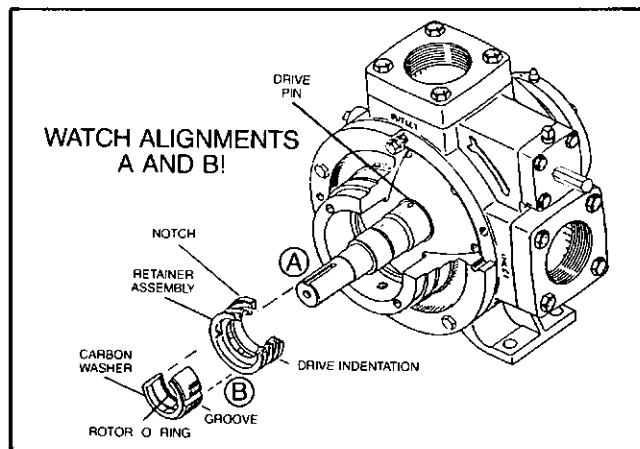

FIGURE 11
9. Install retainer assembly. See Figs. 11, 12 and 13. Align notch on inside of retainer assembly with drive pin on shaft. Be sure retainer assembly is aligned with drive pin and is pushed up against step on shaft.